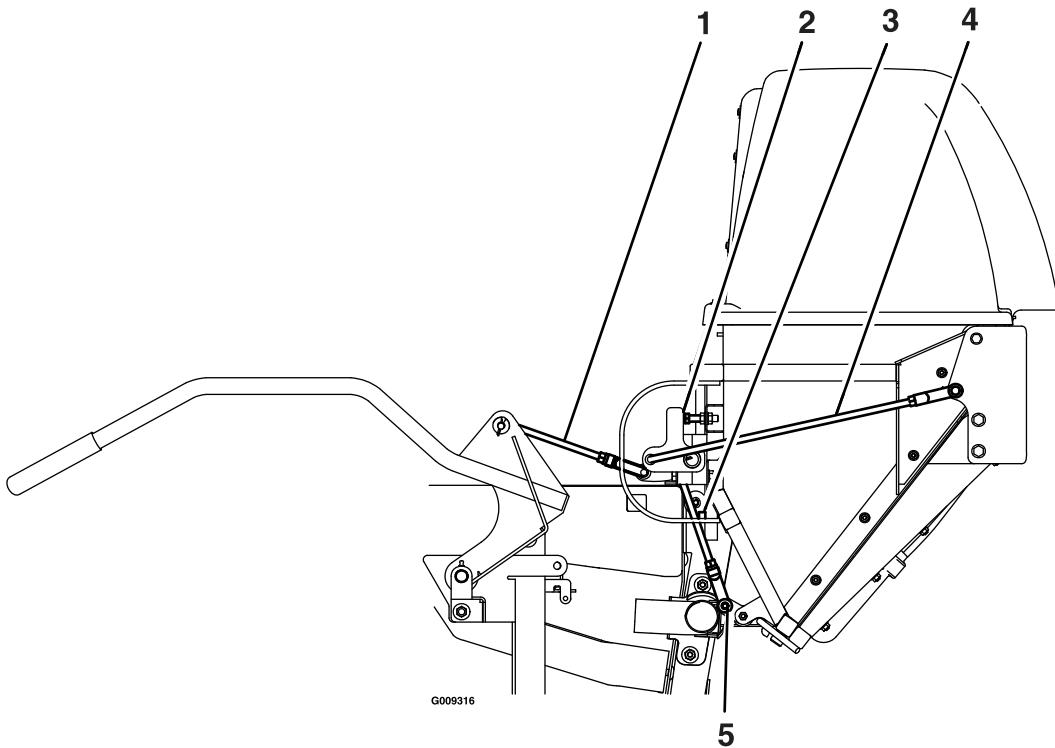

Figure 30
- Door closing:** The closing of the door is controlled by the two hinge links and the two stop screws (see Figure 30). The stop screws should be adjusted so that both will be contacted when the contacting arm is straight up and down. With the stop screws adjusted, the length of the hinge links can be changed to provide complete closing of the door, and reasonable force on the handle to latch or unlatch the door. Lengthen the links to reduce the force. Shorten the links to increase the force. With the door closed, both links should be slightly tight to minimize rattling.
- Door opening:** After adjusting the hinge links for door closing, the handle link can be adjusted to obtain maximum door opening (see Figure 30). Lengthen the link to open the door farther. Shorten the link to open the door less. The maximum door opening is limited by the contacting arm hitting the stop. This stop is non adjustable, and prevents over opening damage from occurring to the linkage.
- Latches:** Once the open and closed positions have been set, the latches can be adjusted (see Figure 30). With the door closed, the latch link should be set so that the latch plate completely engages and contacts the latch rod welded to the door. The latch plates should not be tight against the latch rod. They should easily “wiggle”.